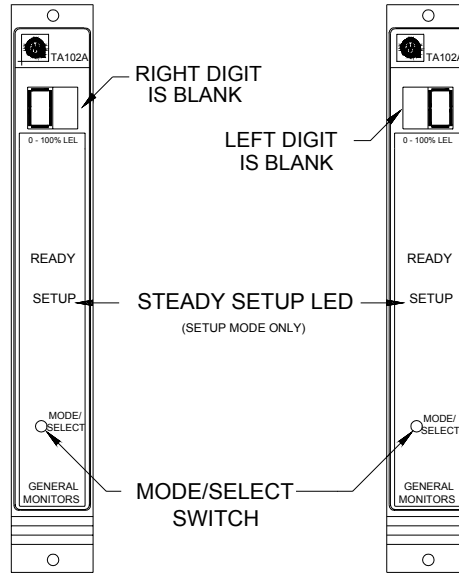

Figure 48 – Entering the Password
- If the password option is enabled, the right digit of the display will be blank and a **0** will appear in the left digit on the display (Figure 48). Press the **Mode/Select** switch until the first number of your password is displayed, and then wait about five seconds.
- The left digit of the display will then blank out and a **0** will appear in the right digit on the display (Figure 48). Press the **Mode/Select** switch until your correct password number is displayed, then wait about five seconds. If the password is correct the unit will proceed to the inhibit option. If the password is incorrect the user will not be able to proceed and the unit will return to the normal operating mode. Once in the operating mode the user may attempt to re-enter the **Setup** Mode. The factory default password is **00**.